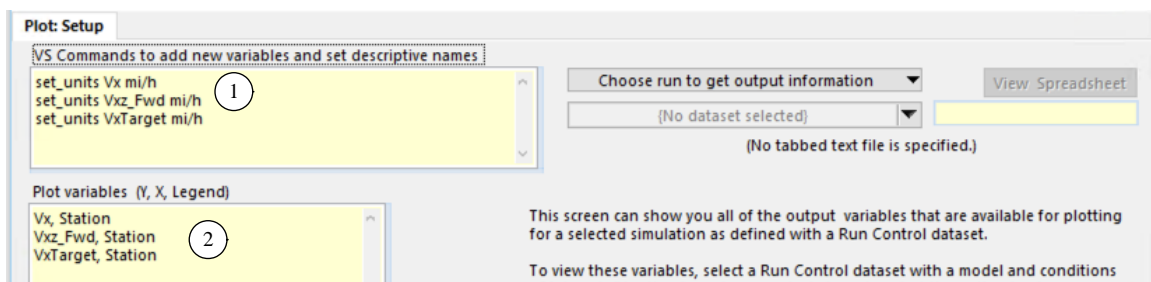

Figure 7. Plot Setup screen for speed variables.
Consider the **Plot Setup** screen used to plot the speed variables vs. station (distance travelled) in Figure 7. The second yellow field specifies the variables to cross-plot for the three plots (2).